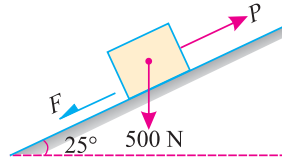

Fig. 8.9.
**Example 8.5.** A body of weight 500 N is lying on a rough plane inclined at an angle of  $25^\circ$  with the horizontal. It is supported by an effort ( $P$ ) parallel to the plane as shown in Fig. 8.9.